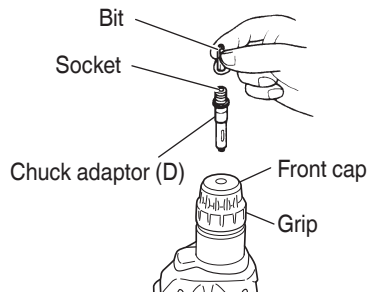

Fig. 11
- (1) Attach the drill chuck to the chuck adaptor.
- (2) The part of the SDS-plus shank is the same as the drill bit. Therefore, refer to the item of "Mounting the drill bit" for attaching it.
4. When driving machine screws (Fig. 11)
- Do not attempt to use the rotary hammer in the rotation and striking function with chuck adaptor (D) and bit attached.
5. When driving wood screws (Fig. 11)